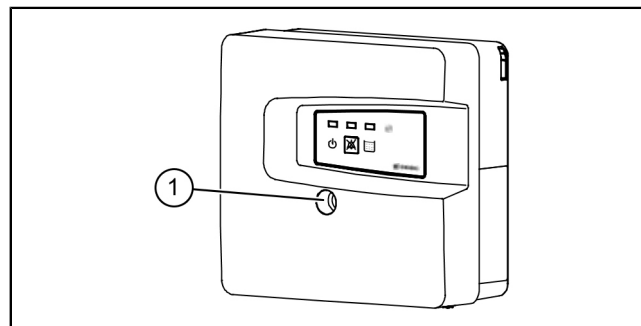

Fig. 5: Open the housing
- ▶ Open the housing cover **4** (see "Fig. 5: Open the housing", page 38).